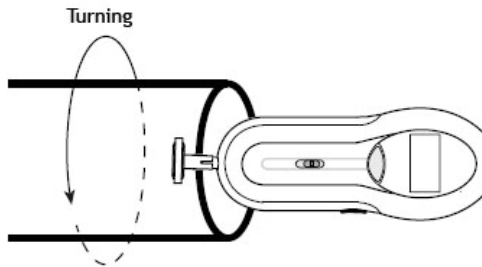

Figure 7
c. Lightly press the surface speed test wheel against the surface of the turning object (Figure 7), press and keep pressing the TEST button. Read the reading when it is stable